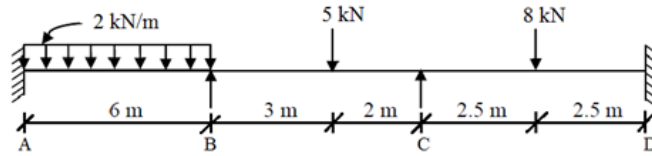

Figure 8
8. (a) Analyse the continuous beam ABCD shown in Figure 8 using moment distribution method and draw shear force, bending moment diagrams. Assume moment of inertia of the spans as $2I_{AB} = I_{BC} = 2I_{CD}$. [7M]